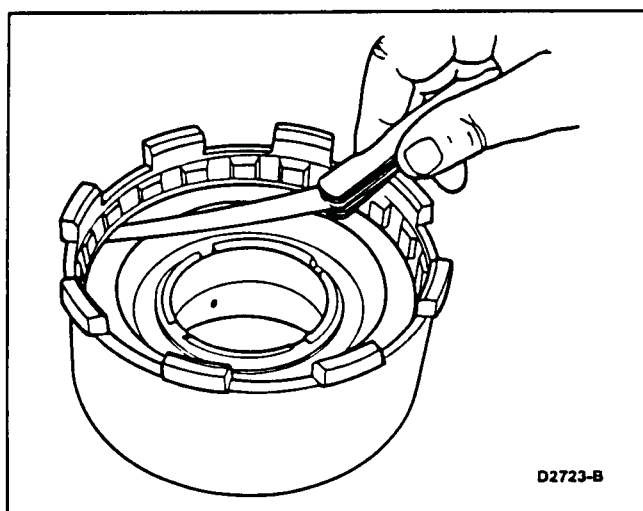

FIG. 30 Clearance Check Between Pressure Plate and Retaining Ring
7. Use a feeler gauge to check the clearance between the retaining ring and the pressure plate (Fig. 30). **Push downward** on the plates while making this check. The clearance should be to specification. If the clearance is not within specification, install a different, suitable retaining ring. Refer to Specifications for the clearance specification and the available retaining, ring sizes.